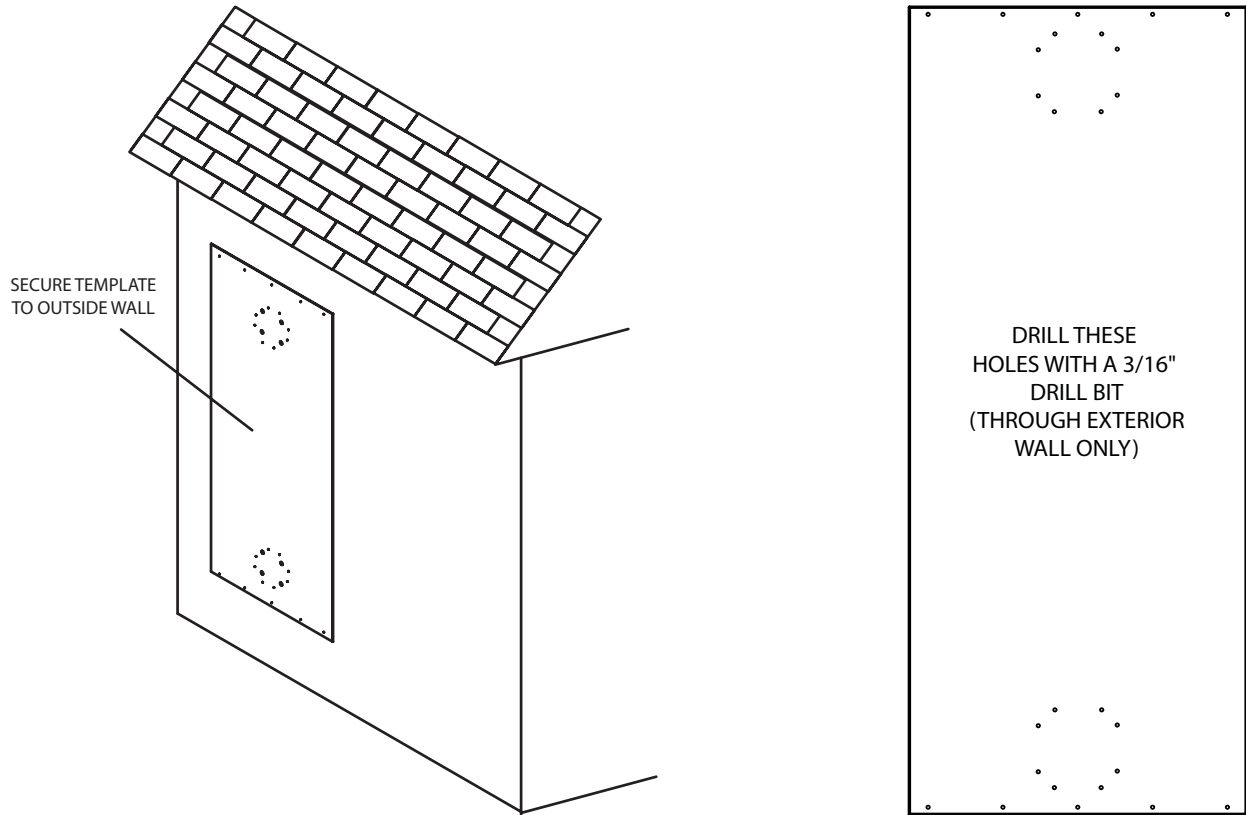

Figure 8. Securing template to south facing wall.
- a. Mount the installation template provided as shown in Figure 8. Secure the template to the wall using staples or tape. Use a level to ensure that the template is level. Using a 3/16" drill bit, drill the holes (through the exterior wall only) as shown in Figure 8.